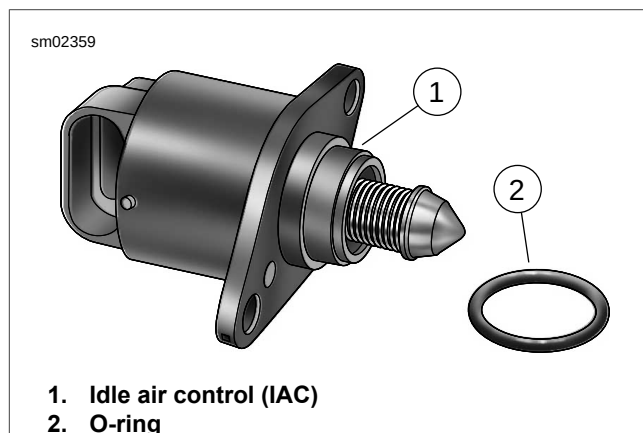

Figure 4-23. Idle Air Control (IAC)
3. See Figure 4-23. Pull IAC (1) and O-ring (2) from throttle body.
1. See Figure 4-23. Apply **clean** engine oil to IAC O-ring (2). Install O-ring in counterbore of induction module.